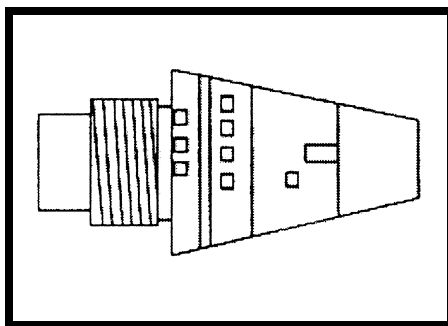

Figure 7-20. Setting the M776 (DM93) MTSQ fuze.
b. M776 (DM93) MTSQ Fuze (Figure 7-20).
- (1) Rotate the head of the fuze to the left (counterclockwise) until the inverted triangle or index line is aligned with the correct line and number of seconds of the time scale.
- (2) Use the fuze setter to rotate the head of the fuze.